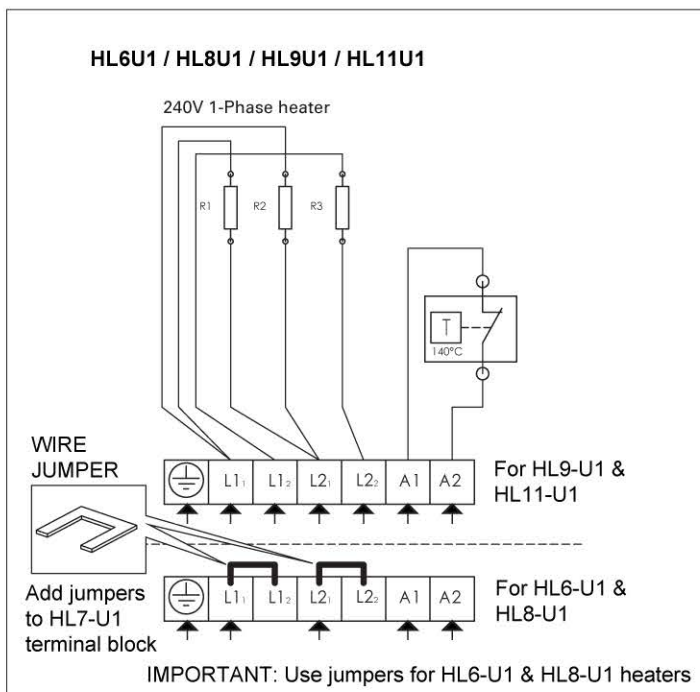

Figure 6. Electrical connections of heater
⚠ Install the temperature sensor as shown in figure 6. The sensor is either located in the control unit box or inside the heater box.
2. See applicable wiring diagram for heater model (figure 6 & 6.1). Heater must be permanently installed by using seal tight conduit between the heater and the wall of the sauna room (pigtails or plugs are not allowed in the sauna room). Wiring must be done by a licensed electrician, who must follow wiring diagram provided and adhere to local codes. Use proper AWG rated wire size and use copper wire suitable for 194 °F (90 °C) within sauna walls. Use grounding terminals provided in sauna heater and control unit to properly ground the equipment as per NEC and local codes.